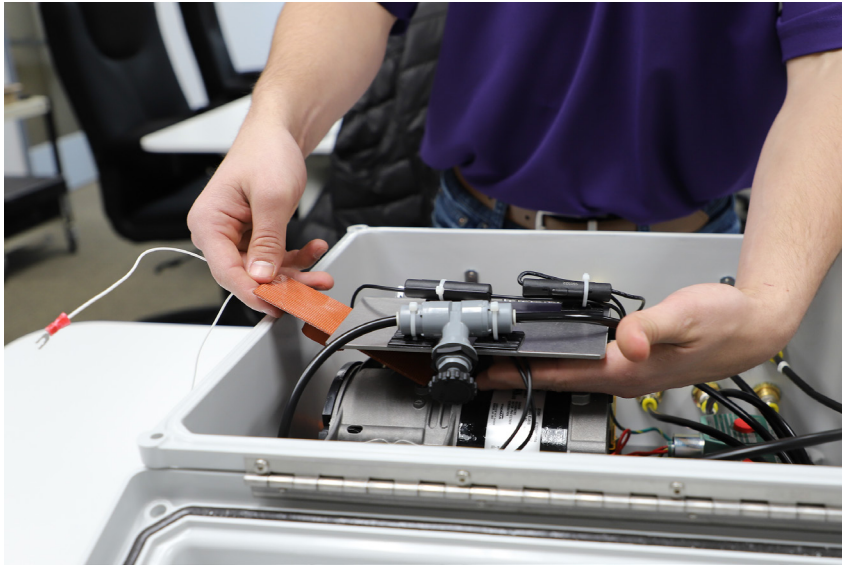

Figure 10
- c. With the sticky side facing up, place the heater under the bracket and secure it in place by pressing it up against the plate, see **Figures 10 and 11**.